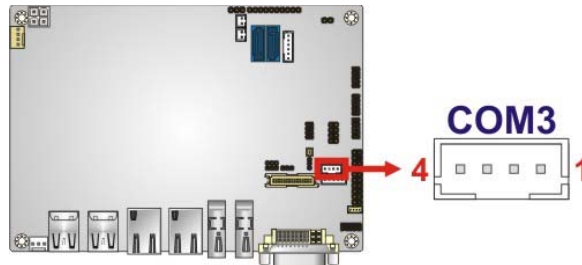

Figure 3-15: RS-422/485 Serial Port Connector Location
- CN Location:** See **Figure 3-15**